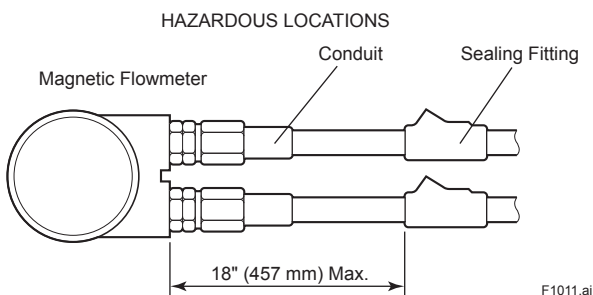

Figure 10.2 Conduit Wiring
- In hazardous locations, wiring to be in conduit as shown in Figure 10.2
(5) Maintenance and Repair